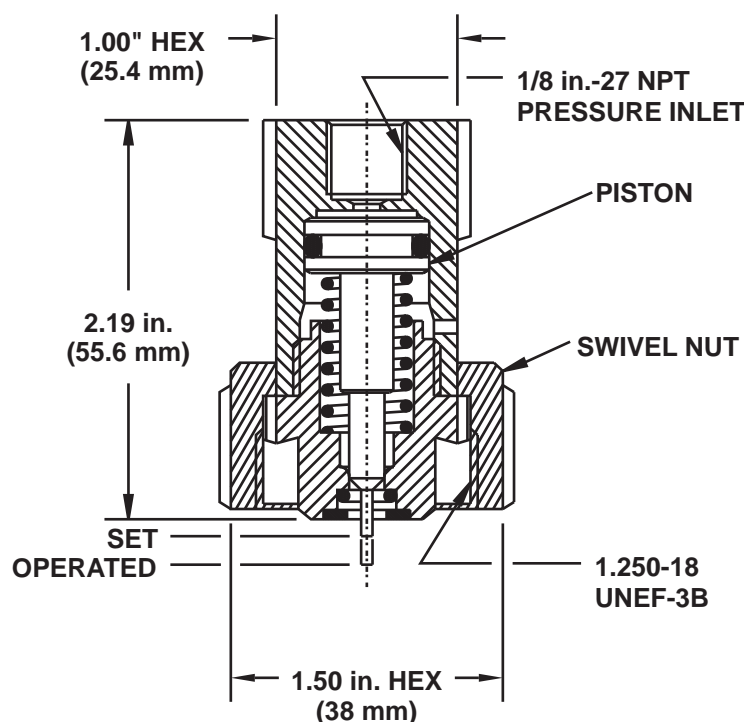

Figure 4-15. Pressure Operated Control Head
1. Remove the protection cap from the cylinder actuation port (see Figure 4-15).